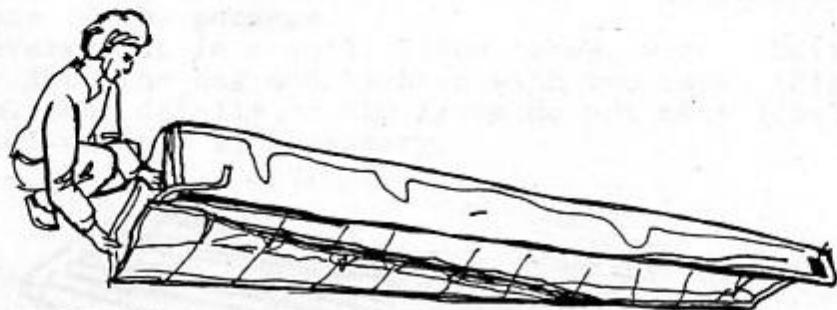

Fig. 5.3.2.
17. Pack up the sail along the leading edge of the sail (Fig. 5.3.2). Try to do this without longitudinal folds on the leading edge of the sail.